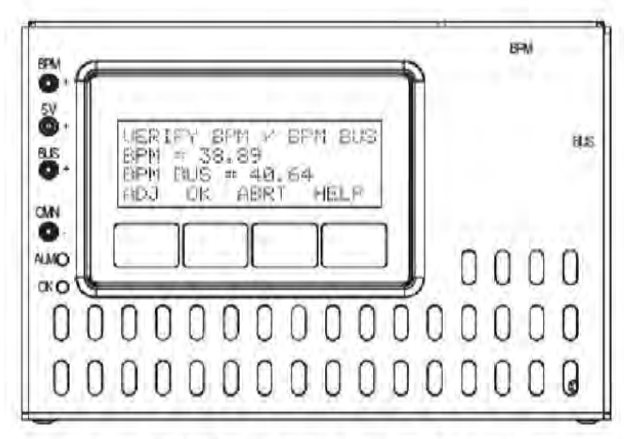
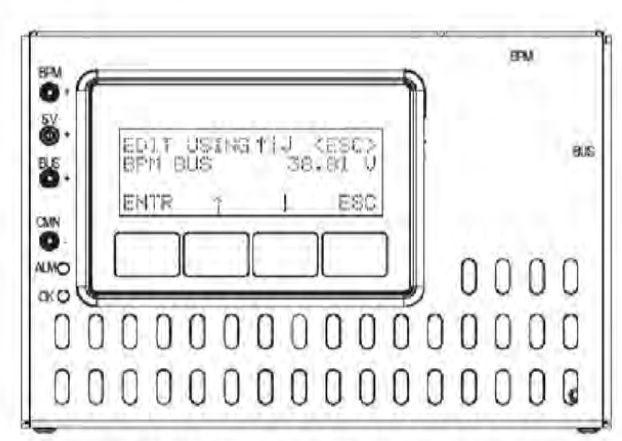

Fig. 5-6, Verifying BPM / BPM BUS
Fig. 5-8, BRD Screen - Voltage Adjustment
- Use the previously on-site calibrated DMM to verify BPM voltage. Place meter's common lead in the CMN- test point on the BRD, place the meter's positive lead in the BPM+ test point, and verify your meter displays between 30 and 41VDC. Verify the BRD displayed value. If the difference between the DMM and BRD readings are greater than 0.03VDC, press the **ADJ** softkey on the BRD to adjust the voltage closer to what the DMM measures. Use the arrow softkeys to adjust the displayed values. If the difference is within spec, press the **OK** button. (See Fig. 5-6 to Fig. 5-8 for reference.)